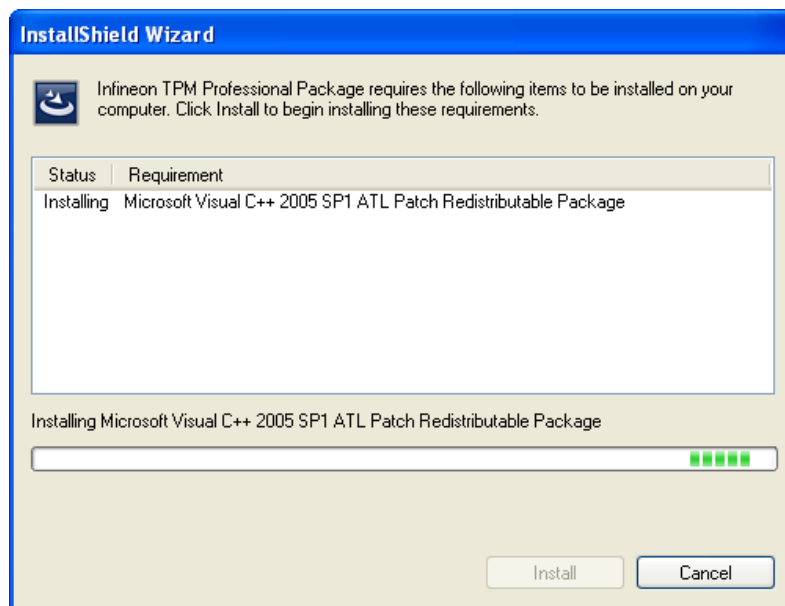

Figure 6-35: Install TPM Professional Package Screen
Step 6: Click INSTALL to continue. (Figure 6-35)